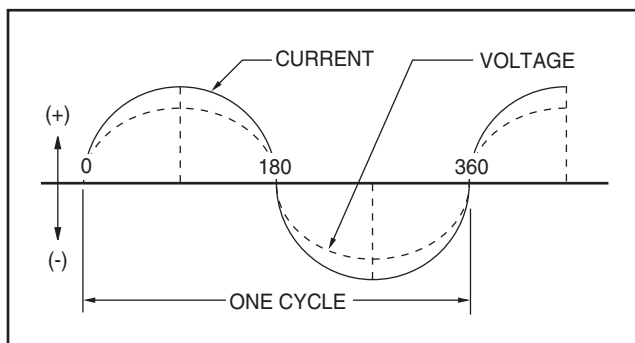

Figure 5. Alternating Current Sine Wave
As the ROTOR turns, its magnetic field cuts across the stationary STATOR. A voltage is induced into the STATOR windings. When the magnet's NORTH pole passes the STATOR, current flows in one direction. Current flows in the opposite direction when the magnet's SOUTH pole passes the STATOR. This constant reversal of current flow results in an alternating current (AC) waveform that can be diagrammed as shown in Figure 5.